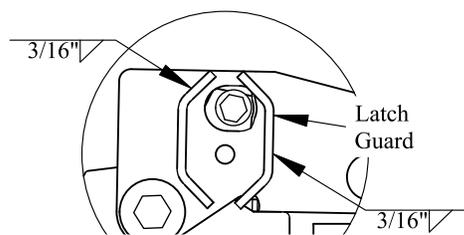

Figure 4: Weld.
9. **Weld** the Latch Guards in place (Figure 4).